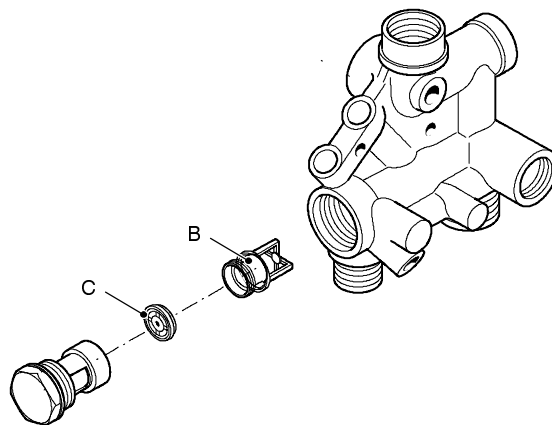

fig. 64
- 2 Unscrew the part B (fig. 64) and remove it from the body of the filter.